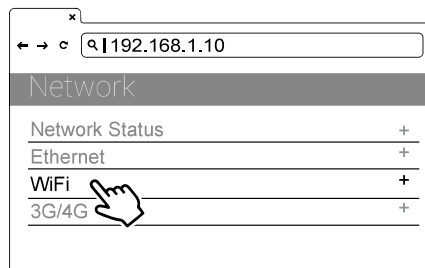

Figure 34. Network Select
- 1) Select Wi-Fi Module. See figure 34.